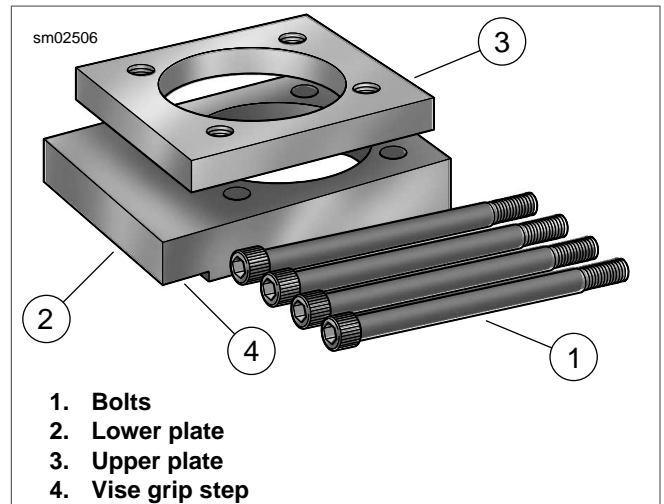

Figure 3-96. Cylinder Torque Plates (Part No. HD-42324-A)
6. See Figure 3-96. Check the machined surfaces for flatness using a feeler gauge and CYLINDER TORQUE PLATES (Part No. HD-42324-A) as follows:
- a. Lay gasket side of the upper torque plate (3) (without vise grip step) flat against the head gasket surface of the cylinder.
- e. Now turn the cylinder upside down and lay the seal side of the lower torque plate (2) (with vise grip step) flat against the o-ring seal surface. Repeat steps 6b and 6c above.